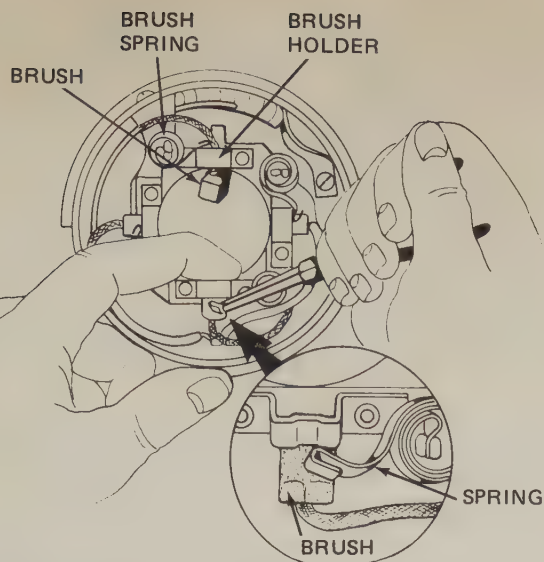
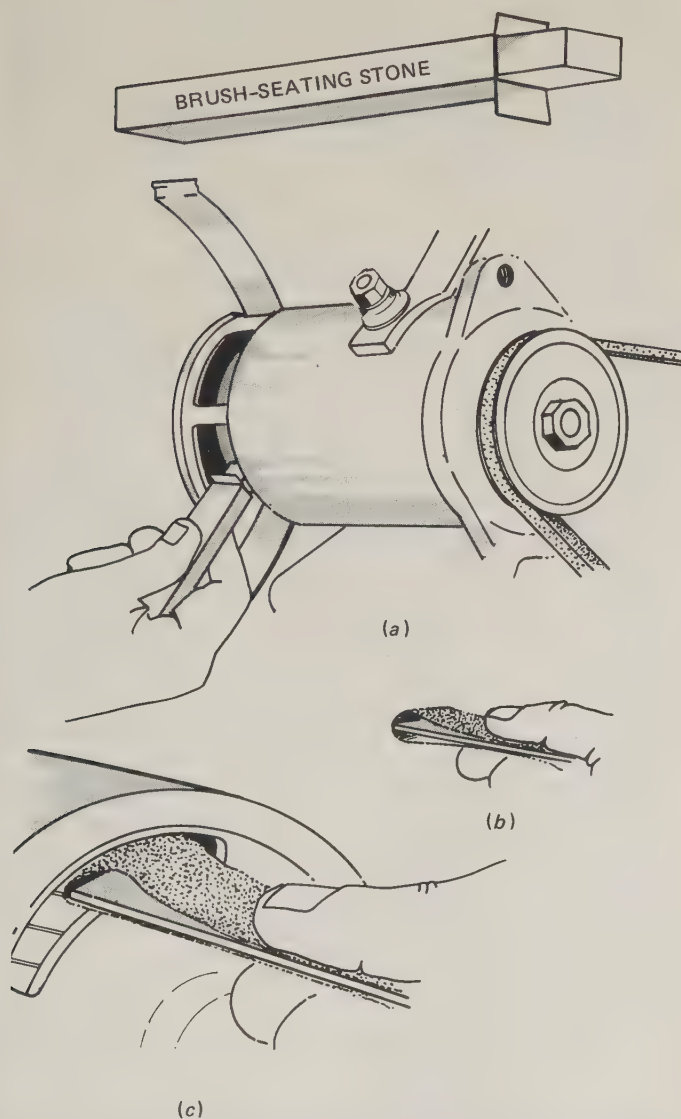

FIG. 24-34 Checking the brushes for wear. (Briggs & Stratton Corporation)
FIG. 24-35 Cleaning commutator with a brush-seating stone (a) or sandpaper (b) and (c).
**Examining the Brushes and Commutator** If the brushes are worn down (Fig. 24-34), they must be replaced. If the commutator is worn or rough, it should be cleaned with fine sandpaper or a brush-seating stone (Fig. 24-35). Never use emery cloth to clean the commutator. Some manufacturers supply brush replacement kits. The grounded brush lead may be riveted to the end cap. The rivet must be drilled out so the new brush lead can be riveted into place. The insulated brush is connected to the field lead and must be unsoldered before removal. Then the new brush lead is soldered to the field lead. Rosin-core solder must be used when soldering electrical connections.
When putting the end cap back on, make sure the brushes are lifted so they will allow the commutator to pass under them. This can be done by pulling up on the brush springs with needle-nose pliers as shown in Fig. 24-34. After the cap is partly on, let the springs down so the brushes will rest on the commutator. The end cap can then be pushed on into place and then through bolts installed to complete the assembly.